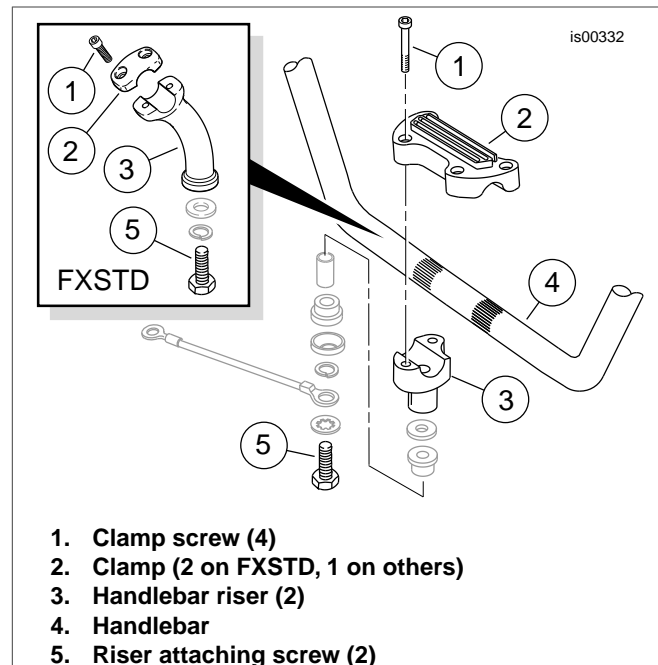

Figure 1. Handlebar Clamps and Risers (Dyna and Softail Models)
8. See Figure 1. Remove and discard screws (1), upper clamp (2) and handlebar (4).